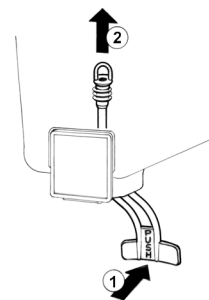

figure 4
- 5 **Pinch tube faucet:** push the dispensing handle (1) and
take the pinch tube off from its seat (2) (see figure 4).